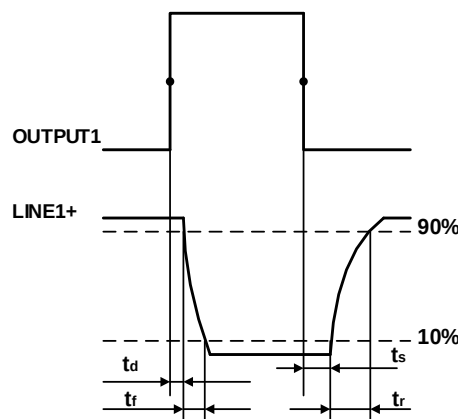

Figure 7-7 Parameter of opto-isolated output circuit
- Rising time delay = $t_r + t_d$: $< 50\mu s$ (0°C~45°C) (parameter description is shown in Figure 7-7)
- Falling time delay = $t_s + t_f$: $< 50\mu s$ (0°C~45°C) (parameter description is shown in Figure 7-7)